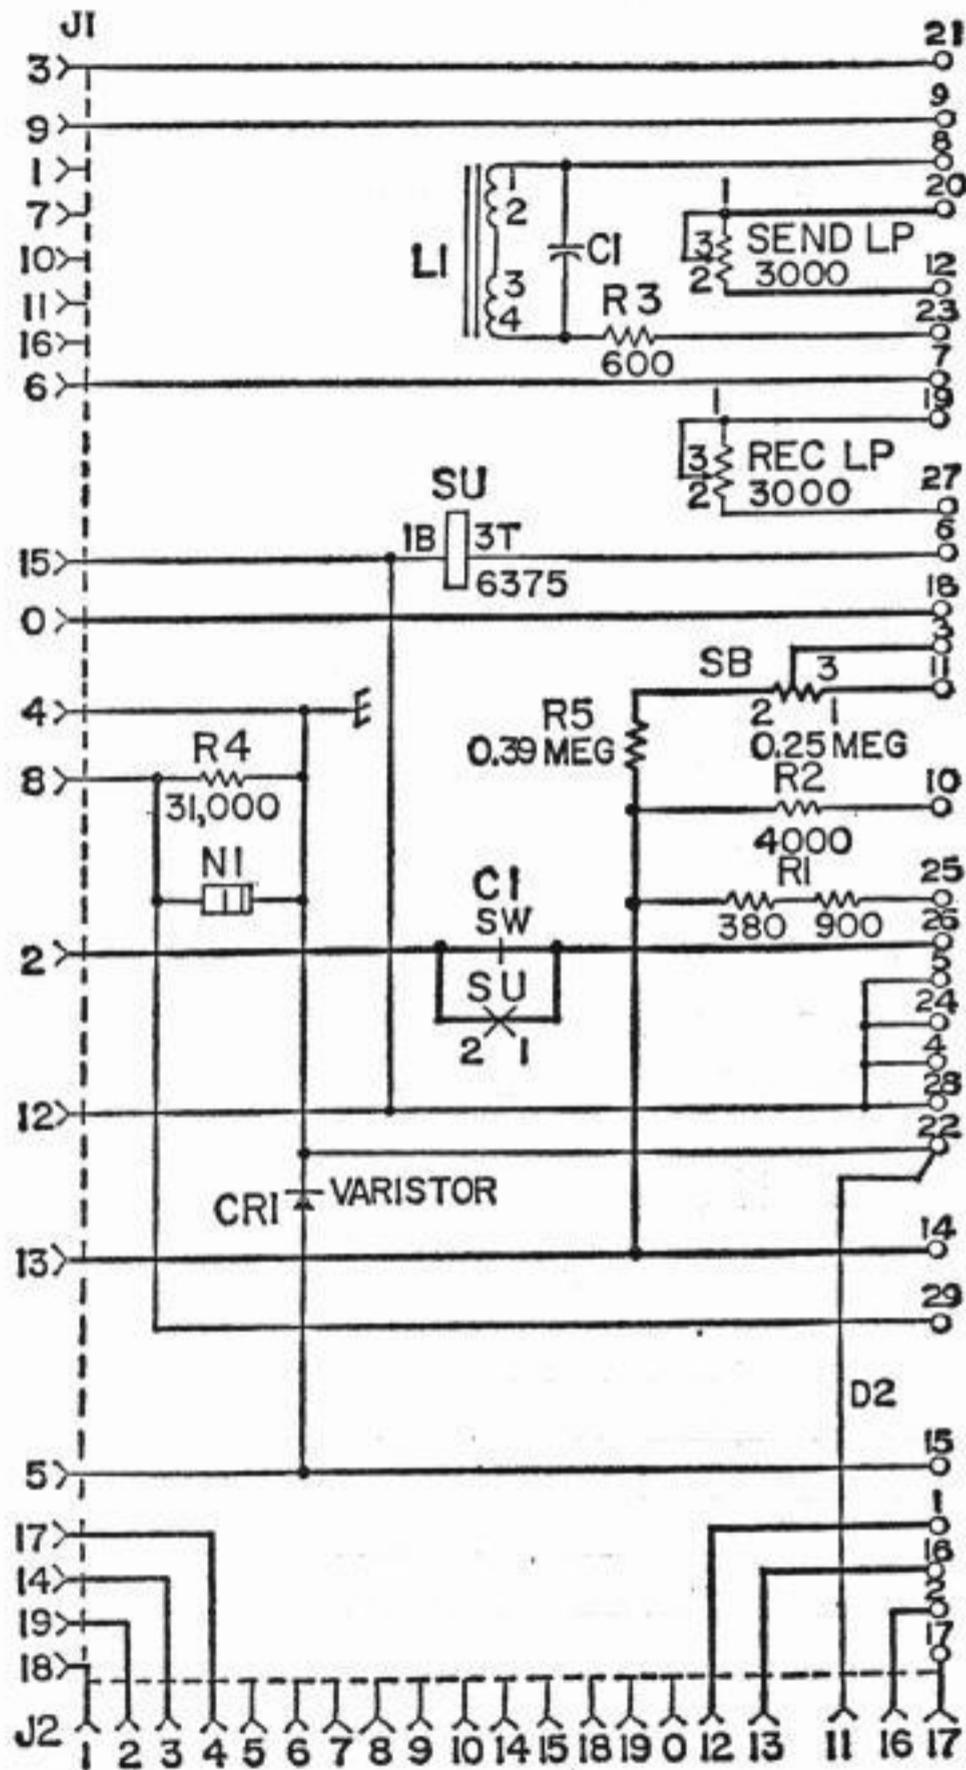
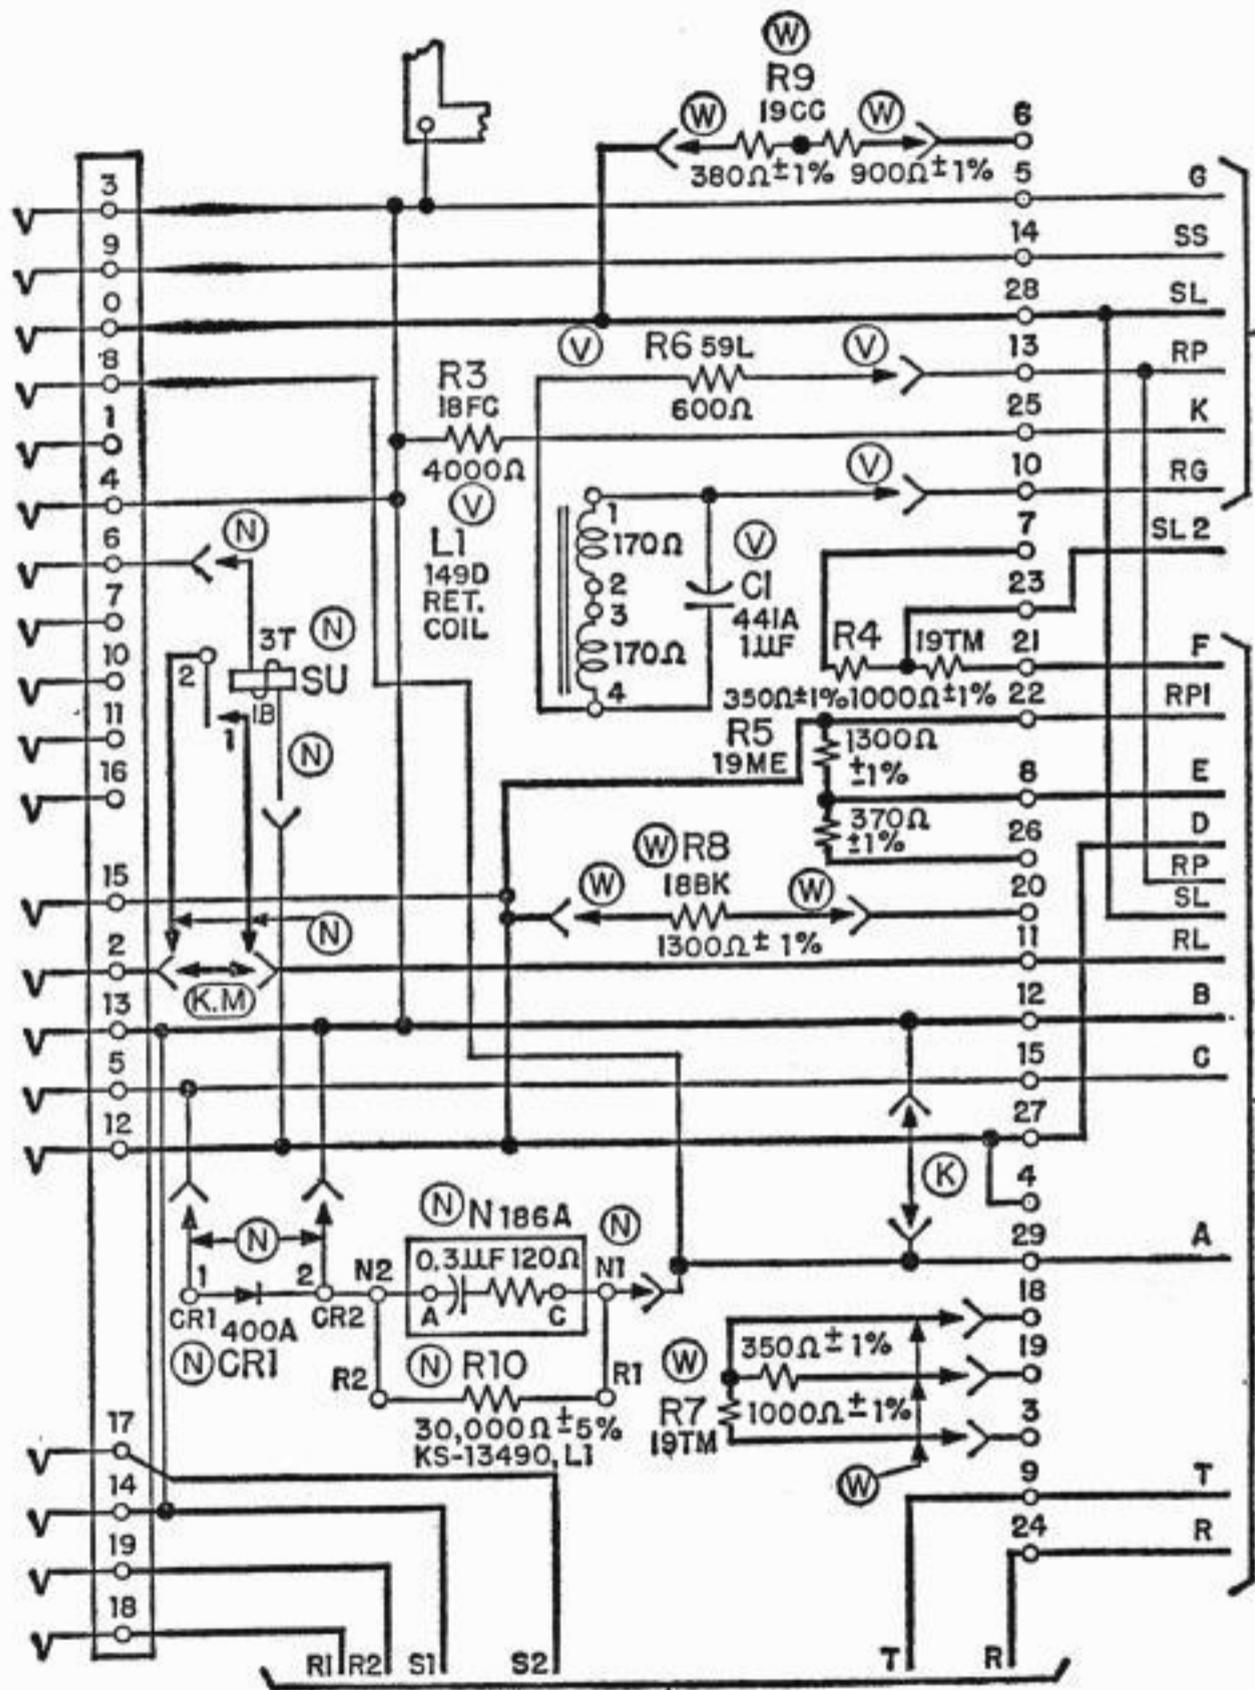

Fig. 8—130B2 or 130C1 Subscriber Set
Fig. 9—130B1 Subscriber Set
2.11 Fig. 8 is the schematic of a 130B2 or 130C1 subset. The 130B1 subset is now Manufacture Discontinued. The schematic of this subset is shown in Fig. 9.
- (f) Adjust the potentiometers P1 and P2 (Fig. 9) to find a setting such that the gain may be increased as far as possible without causing the loop current to drop below its "Mark Hold" value. The REC GAIN control and the potentiometers P1 and P2 should be adjusted alternately, first increasing the gain until the loop current drops slightly and then adjusting the potentiometers to bring the loop current back to its "Mark Hold" value.